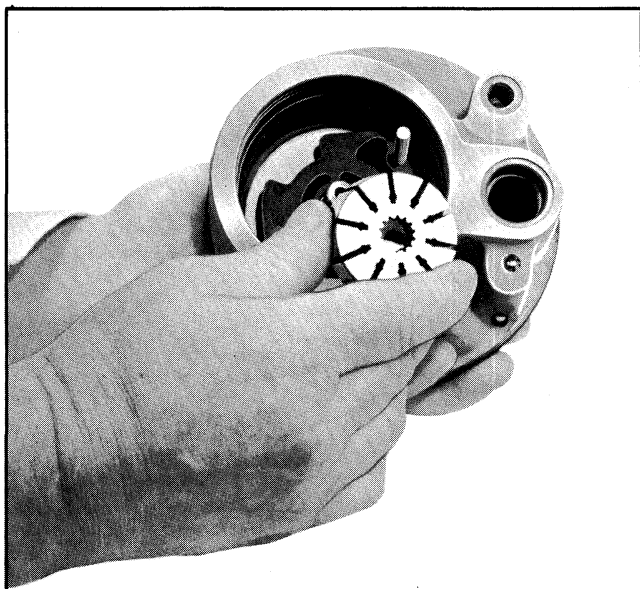

Fig. 9A-49 Installing Rotor
6. Install vanes in rotor slots with radius edge towards outside (Figs. 9A-51 and 9A-52).